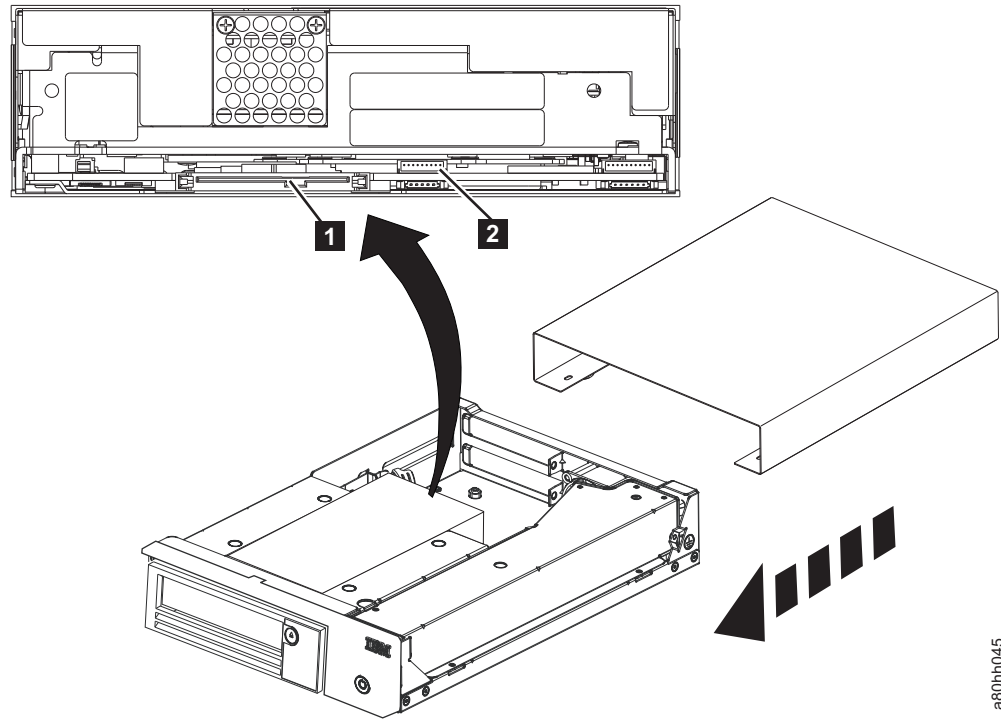

Figure E-2. Removing cables from the internal drive
6. Gently push on the drive's rear panel to remove the chassis from the cover (see Figure E-2 on page E-3).
1. Unplug the SAS interface cable and the ethernet interface cable ( **1** and **2** in Figure E-2) from the drive. Disconnecting the internal SAS interface cable disconnects both the SAS interface and electrical power from the drive.